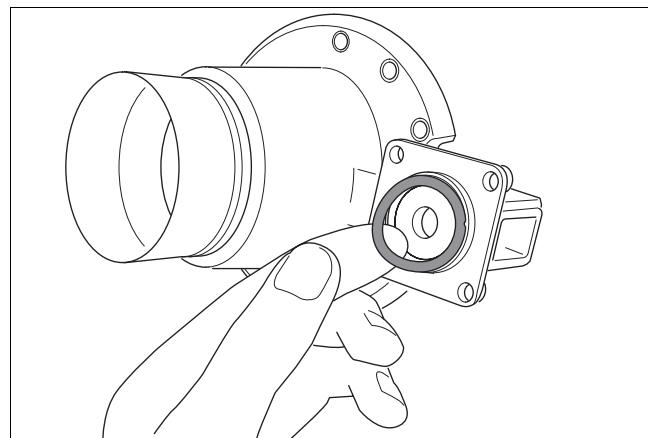

fig. 11 Placing a new O-ring on the gas valve
- Install a new O-ring (fig. 11).